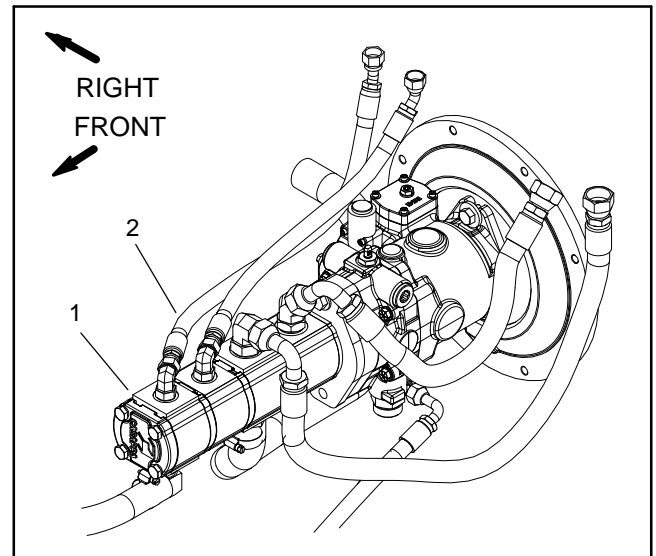

Figure 48
1. Make sure hydraulic oil is at normal operating temperature by operating the machine for approximately ten (10) minutes. Make sure the hydraulic tank is full.
4. Thoroughly clean junction of hydraulic hose and fitting in gear pump section P4 (Fig. 48). Disconnect hydraulic hose from fitting.